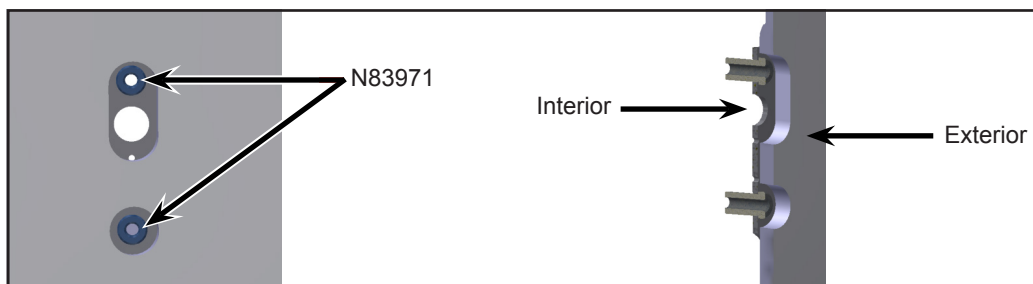

Figure 6 - Bushing Location with Interior and Exterior View
- 1.7. Place bushing N83971 inside the hole (see Figure 6).